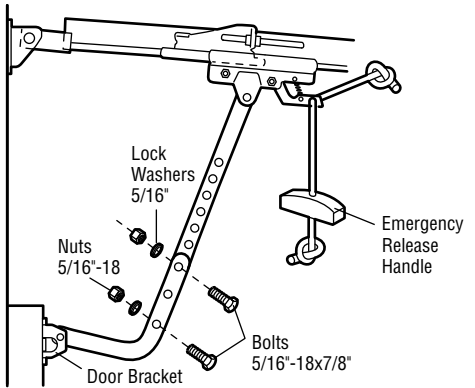

Figure 3
• **Figure 3, Hole alignment alternative:**